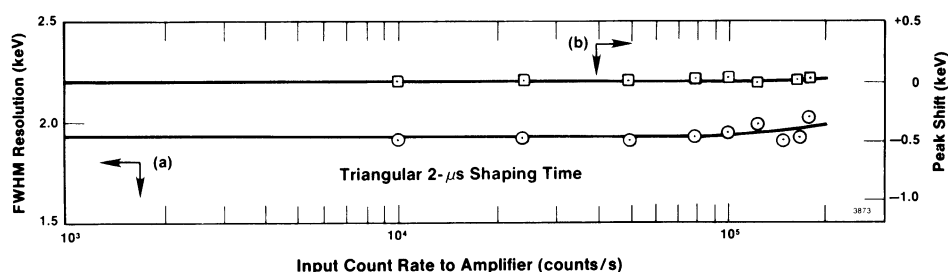

Fig. 2. (a) Resolution and (b) Peak Position Stability as a Function of Counting Rate. See specifications for spectrum broadening and spectrum shift.
To minimize spectrum distortion at medium and high counting rates (Fig. 2), the unipolar output incorporates a high-performance, gated, baseline restorer with several levels of automation. Automatic positive and negative noise discriminators ensure that the baseline restorer operates only on the true baseline between pulses in spite of changes in the noise level. No operator adjustment of the baseline restorer is needed when changes are made in the gain, the shaping time constant, or the detector characteristics. Negative overload recovery from the reset pulses generated by transistor-reset preamplifiers and pulsed optical feedback preamplifiers is also handled automatically. A monitor circuit gates off the baseline restorer and provides a reject signal for a multichannel analyzer until the baseline has safely recovered from the overload.
**SPECTRUM BROADENING\*** (Fig. 2) Typically  $< 8\%$  broadening of the FWHM for counting rates up to 100,000 counts/s, and  $< 15\%$  broadening for counting rates up to 200,000 counts/s. Measured on the 1.33-MeV gamma-ray line from a  $^{60}\text{Co}$  radioactive source under the following conditions: 10% efficiency ORTEC GAMMA-X PLUS detector, 8.5-V amplitude for the 1.33-MeV gamma-ray on the unipolar output.
**SPECTRUM SHIFT\*** (Fig. 2) Peak position typically shifts  $< \pm 0.018\%$  for counting rates up to 100,000 counts/s, and  $< \pm 0.05\%$  for counting rates up to 200,000 counts/s. Measured on the 1.33-MeV line under conditions specified for SPECTRUM BROADENING.